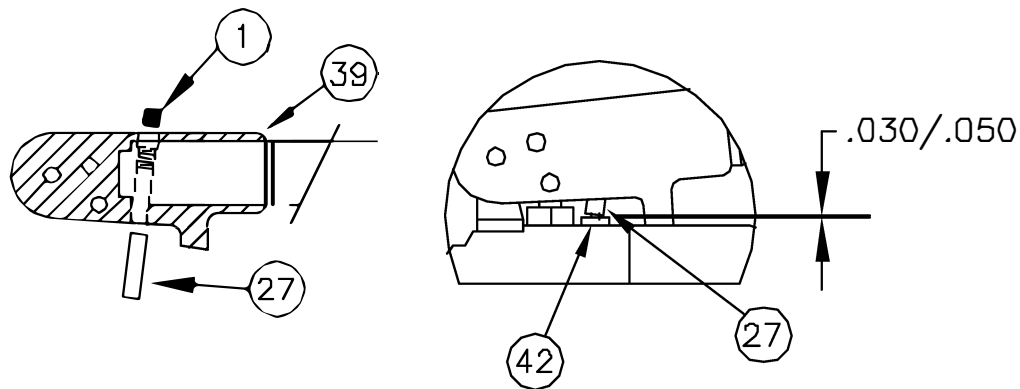

FIGURE 18
1. Rotate and push pump handle down as you would to release the tool after making a crimp. Hold the handle in the release position and using a feeler gauge, measure the space between the top of the nut 42 and the bottom of pin 27 (see Figure 18). Clearance should be between .030" and .050".
2. **IF CLEARANCE IS OVER .050"**, tighten screw 1 (see Figure 18) reaching through the hole in the top of pump handle 39. This procedure will lower the actuator pin and decrease the clearance.
4. Loosen adjustment screw 1 several turns. While holding the pump handle tap pin 27 several times to move it toward screw 1, increasing the clearance (see Figure 18).